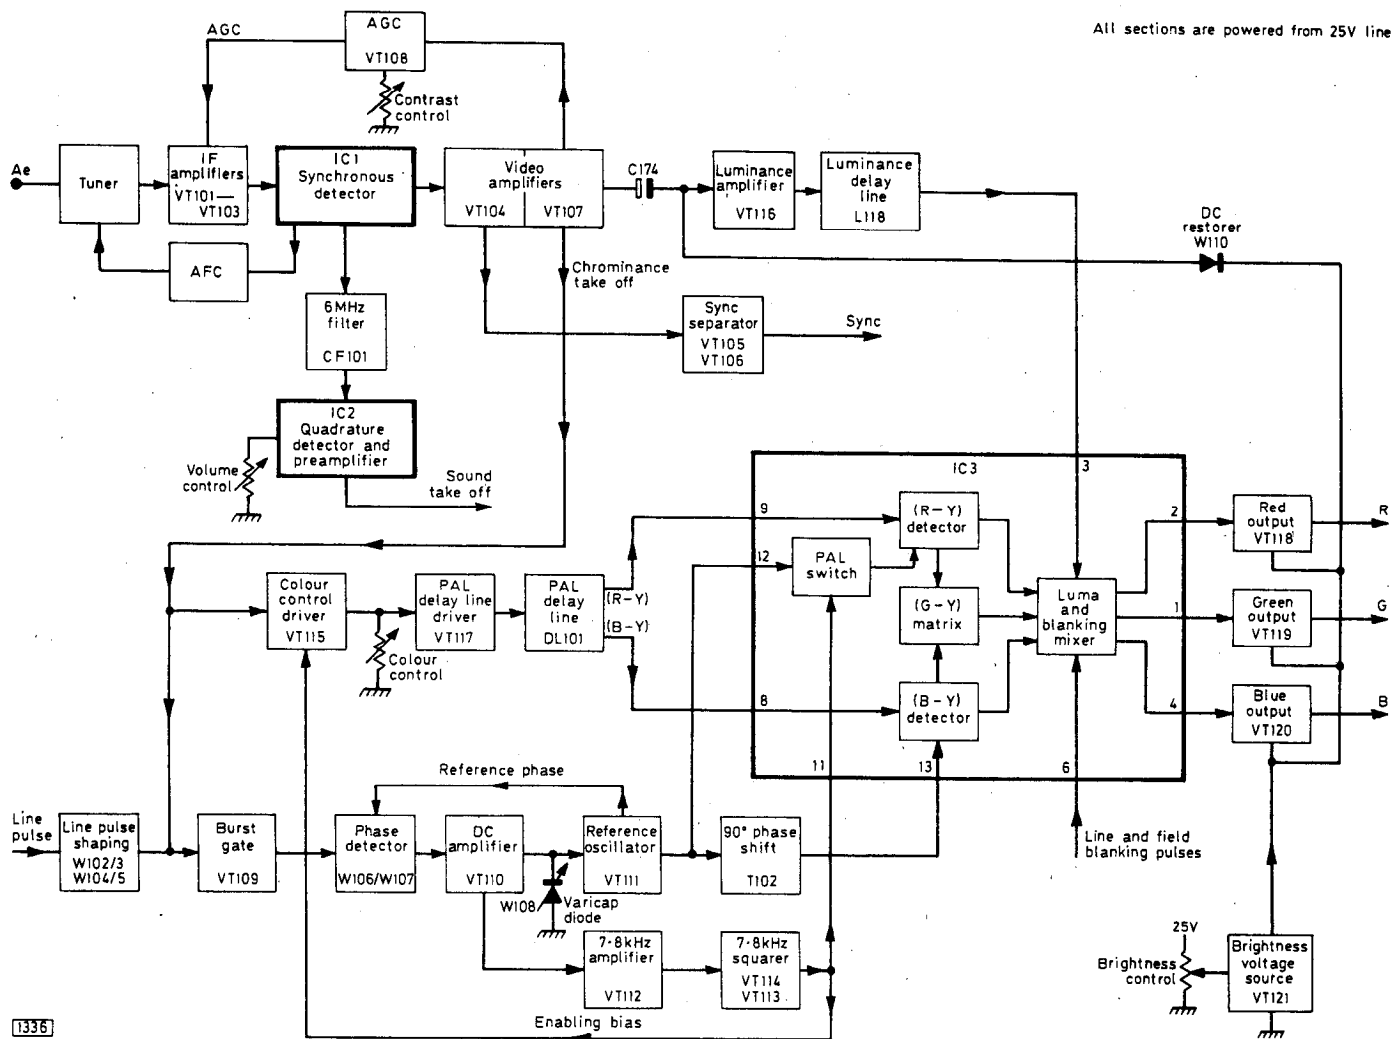

Fig. 1: Block diagram of the i.f./decoder/RGB output panel.
Fig. 1: Overall arrangement of the power supply board. Values in brackets apply to the 8000 and 8000A chassis, though in later 8000A chassis the ramp capacitor C712 which controls the electronic switch is 0.68 μ F as in the 8500 chassis.
The overall arrangement of the power board is shown in block schematic form in Fig. 1. From a mains input of 240V 50Hz, three outputs are provided. An h.t. line (referred to as 180V but in fact nearer 170V on the
Fig. 1 also shows the effect of the changes in the dropper resistors referred to earlier. In the original 8000 series the resistors feeding h.t. to the line output stage (R727) and line driver (R729) were mounted on the power board. On the later 8000A and 8500 chassis they are mounted on the mains dropper resistor assembly.
The protection devices used in the circuit are also shown in Fig. 1. A 2A thermal cut-out and a fuse F802 (2A on the 8000/8000A, 3.15A on the 8500, both delay types) are used in the live mains lead while an 800mA delay fuse (F801) is incorporated in the 45V circuit. Whatever the theory may be, in practice – in the writer's experience – the thermal trip opens up only when the line output transistor has decided to shuffle off this mortal coil, the 2A (3.15A) fuse F802 blows only when the thyristor (together with a handful of other bits – more later) goes short-circuit, while the 800mA fuse F801 frequently blows for no obvious reason – unless of course it doesn't like the peak current rushing through it to charge up 2,500 empty microfarads restricted only by the impedance of the BY127s and the transformer secondary! It is not unknown for a defective cut-out to open of its own accord.
i.f., chroma and video drive circuits and is a large panel mounted on the left-hand side (viewed from rear) of the chassis. The contents of this board are shown in block form in Fig. 1.
Each section shown in Fig. 1 will be dealt with in turn. Note particularly the use of i.c.s for vision and sound detection and for chroma processing. The whole board is powered from the stabilised 25V line – which shoots up to 45V if the stabiliser transistor on the power board goes short-circuit! Fig. 5 shows the position of the various test points. (Our photos show panel PC651.)